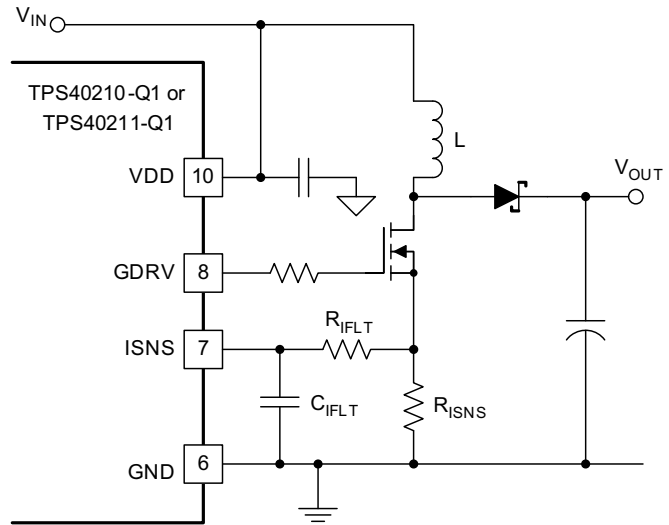

Figure 21. Current Sense Components
- $V_D$  is the drop across the diode in Figure 21
It is possible to increase the voltage compensation ramp slope by connecting the  $V_{DD}$  pin to the output voltage of the converter instead of the input voltage as shown in Figure 21. This can help in situations where the converter design calls for a large ripple current value in relation to the desired output current limit setting.
In most cases, a small filter placed on the ISNS pin improves performance of the converter. These are the components  $R_{IFLT}$  and  $C_{IFLT}$  in Figure 21. The time constant of this filter should be approximately 10% of the nominal pulse width of the converter. The pulse width can be found using Equation 10.